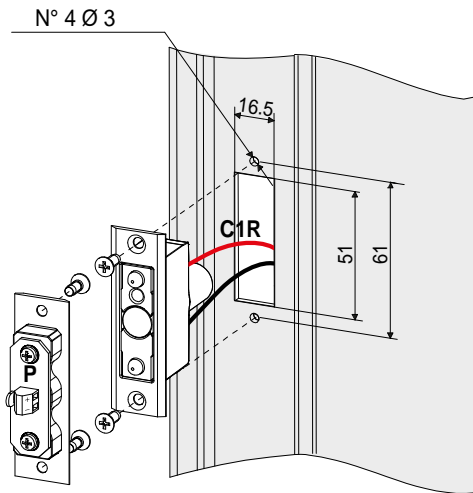

Fig. 1
2. Place the frame side Door Status device in position, making sure the letter P (positive pole) is at the top (Fig. 1).